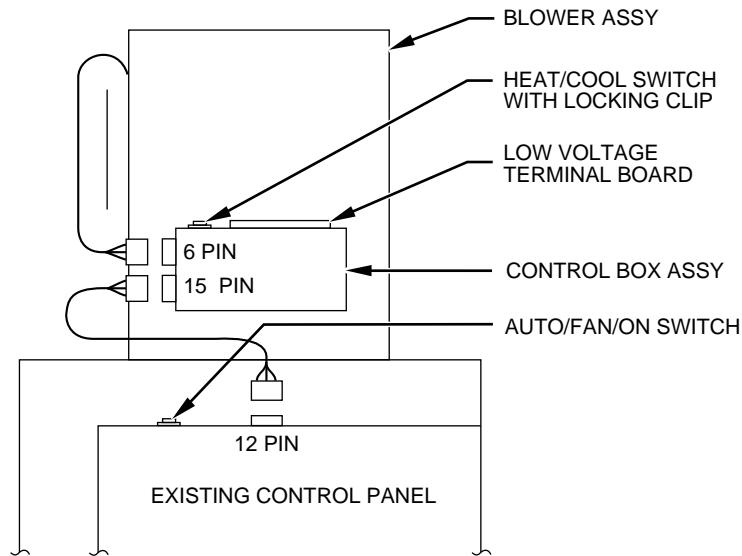

Fig. 4—Connecting Wiring Harnesses
1. Plug 6-pin plug of the blower motor leads, into 6-pin receptacle on the blower control box. (See Fig. 4.)
3. Connect 12-pin plug, of 15- to 12-pin wiring harness, into furnace control box. (See Fig. 4.)
6. Set fan switch located on top of furnace control box to AUTO position. (See Fig. 4.)
2. Remove locking clip on HEAT/COOL switch of blower control box. (See Fig. 4.)